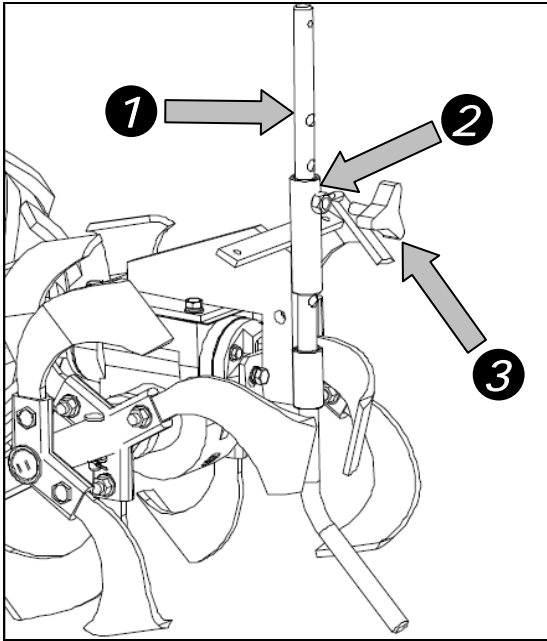

Fig.5
### STEP 3 Install the Depth Regulator (Fig.5)
1. Lift the product a little and install the depth regulator1(Fig.5) into the top of the depth regulator bracket2(Fig5). Let the holes face backward (to the user side) for fixation.
2. Screw in the knob bolt3(Fig.5) into the top hole of depth regulator-tines.